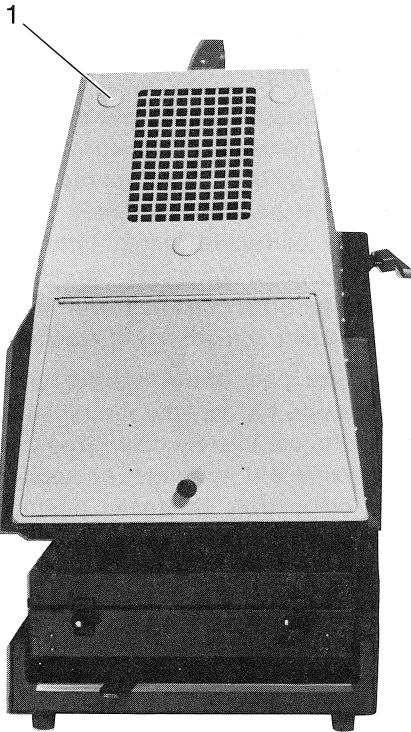

Figure 5 — Rear View
- Remove the three plug buttons (1, Fig. 5) which cover the slotted adjusting nuts.